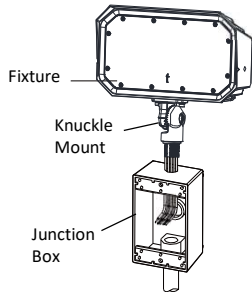

Figure 15
1. Run wires into the junction box (Not Supplied) and screw the knuckle mount into the 1/2" NPT knockout. **See Figure 15.**